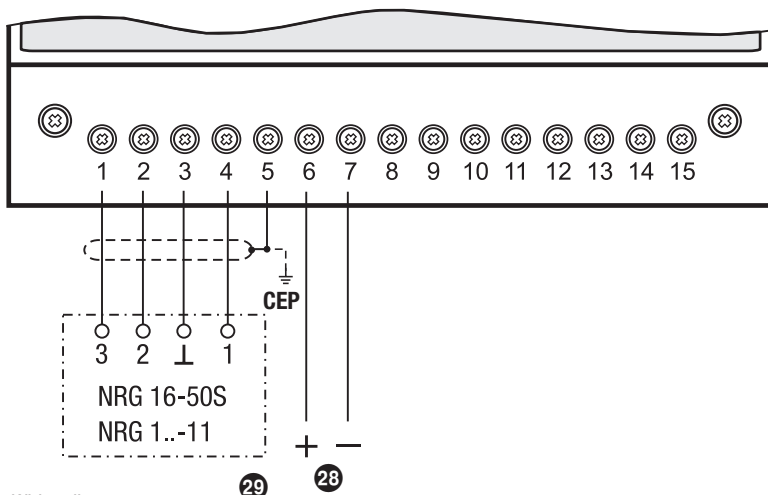

Fig. 8 Wiring diagram for equipment with ONE electrode
Wire terminal strip in accordance with the wiring diagram. **Fig. 8, 9**
6. Run cable through cable gland **27** and upper part of the terminal box **22** and wire terminals of the connecting plate **23** in accordance with wiring diagram. **Fig. 8**